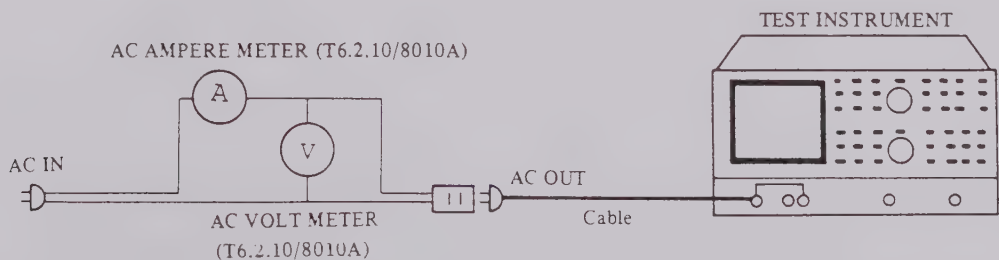

Fig. 6-19 Power Consumption
- (1) Connect the measuring inlet to the commercial voltage supply inlet through the AC AMPERE METER and AC VOLTMETER as shown in Fig. 6-19.
- (2) Connect the TEST-INSTRUMENT accessory power supply cord to the AC outlet.
- (3) Set the TEST INSTRUMENT power switch to ON. Read the value of the AC VOLTMETER and the AC AMPERE METER. The power consumption value is calculated from the following formula: